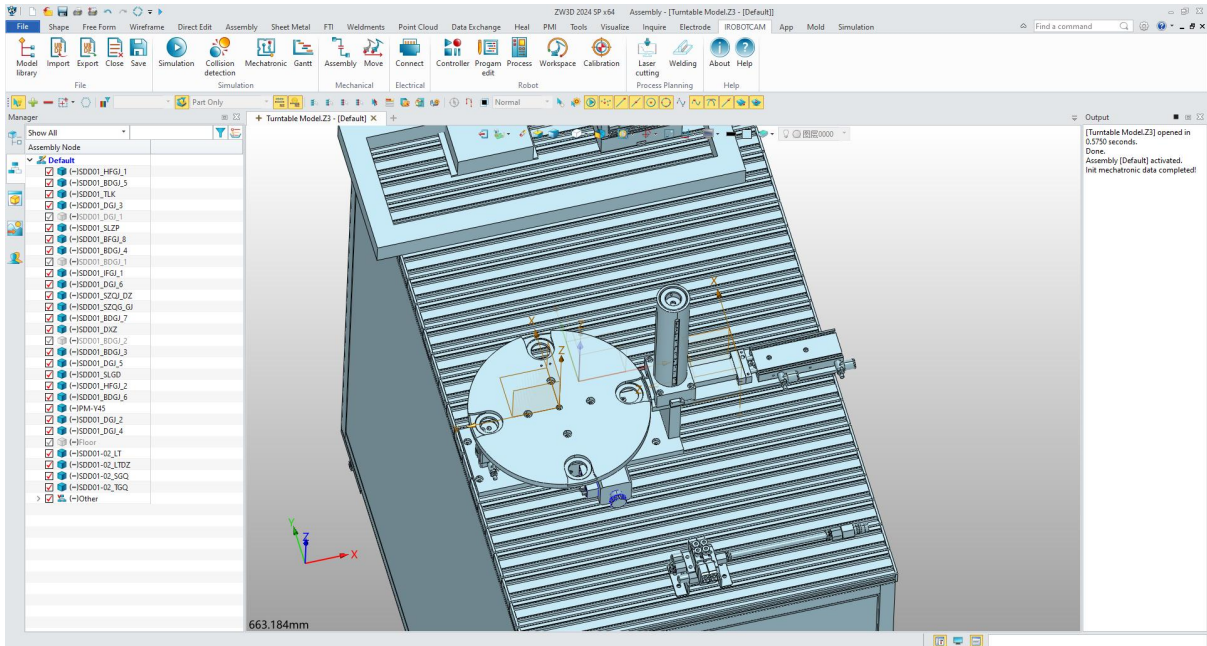

Figure 13-4: Component details
- Access the component details interface.(Figure 13-4)